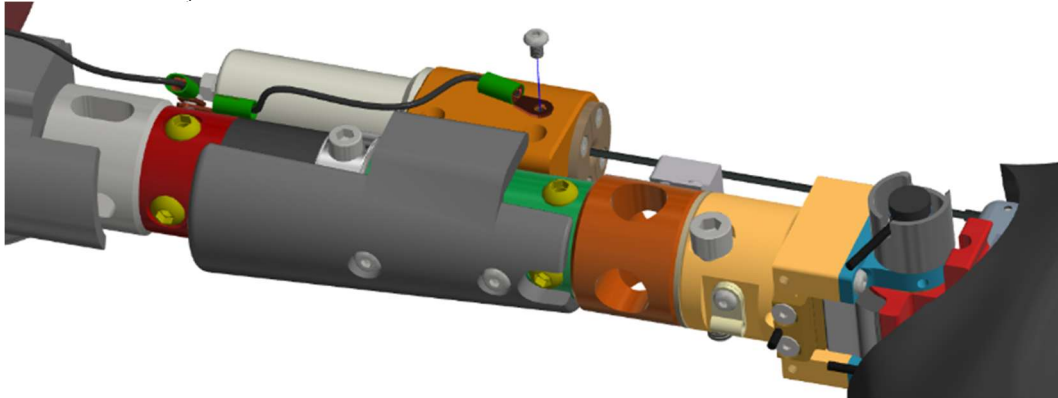

Figure 10-6. Remove the ground cable from the Lower Achilles Spring Housing
10.2.2 Remove the ground cable from the Lower Achilles Spring Housing (Figure 10-6).